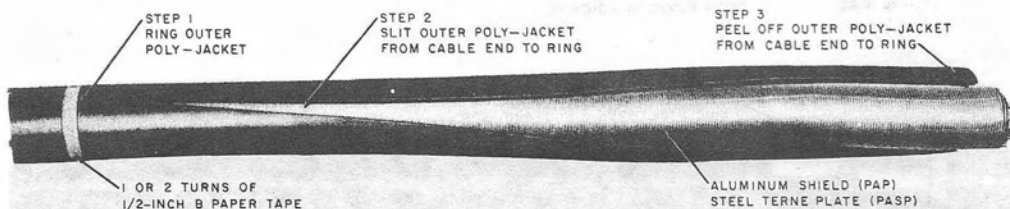

Fig. 8—Cutting and Removing Outer Poly-Jacket
4.01 After marking the length of the sheath opening (2.03), use an R-2761 Skinning Knife, chipping knife, or cable splitter to ring and slit the outer poly-jacket, and remove it as shown in Fig. 8.